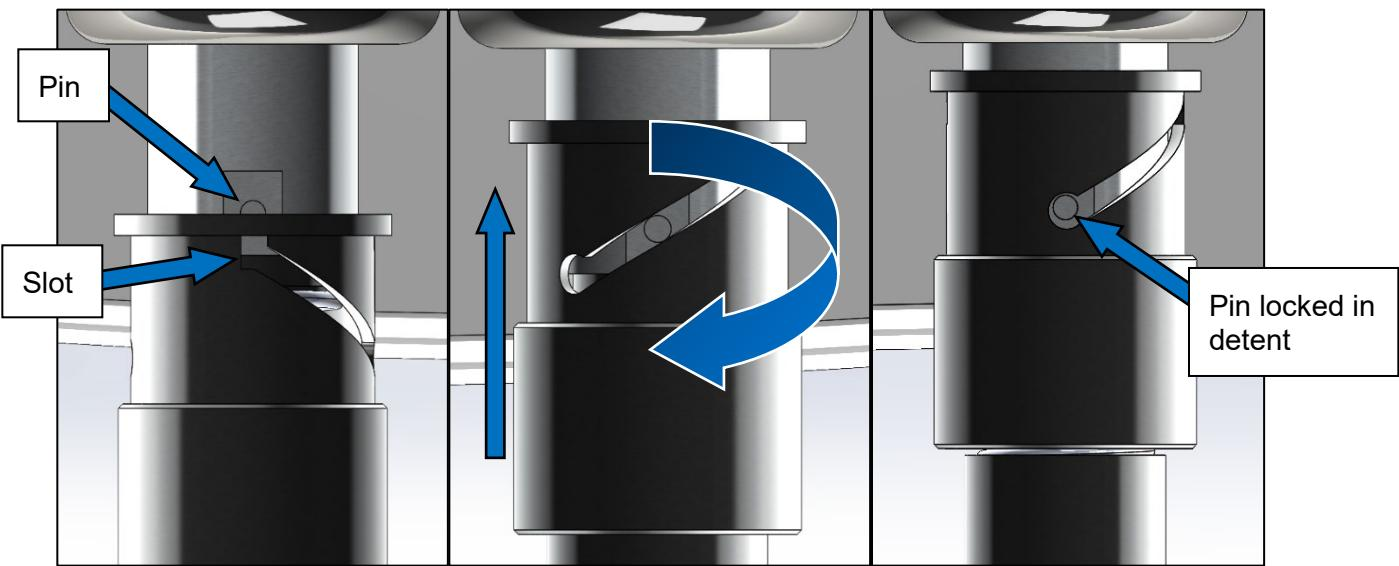

Figure 4-4. Quick Connect fiber connector attachment diagram
3. Insert the Quick Connect fiber connector, with the attached fiber, into the corresponding fiber port (labeled Nd:YAG and/or ALEX). Ensure that the pins on the Quick Connect receptacle align with the slot on the Quick Connect connector. Once aligned push the Quick Connect connector forward and twist clockwise until a click is felt and the pin is locked in the circular detent. (Figure 4-4.)
- It is important to visually see the pin on the receptacle has locked into the detent on the Quick-Connect connector. Failing to make a proper connection can result in damage to the input end of the optical fiber. Figures 4-4 and 4-5 show the fiber securely attached to the arm and the fiber port at the rear panel of the laser.